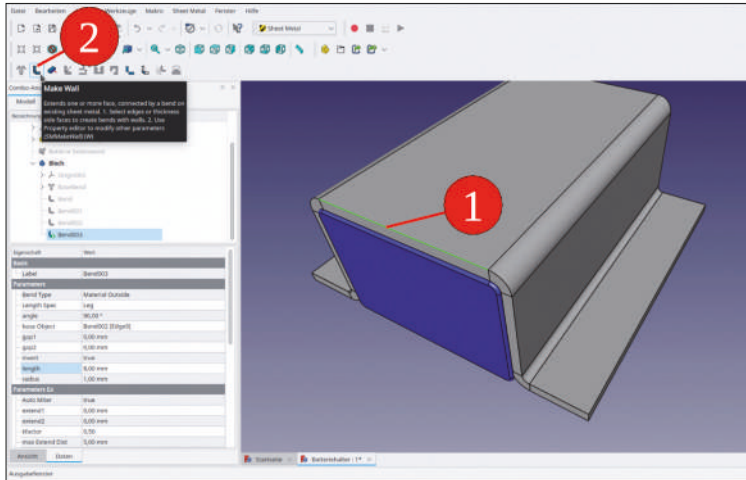

Figure 5-12
15. On the back side of the holder, a little stop would define the position of the battery nicely. Mark the back edge on top and generate a small bend there (Figure 5-12).